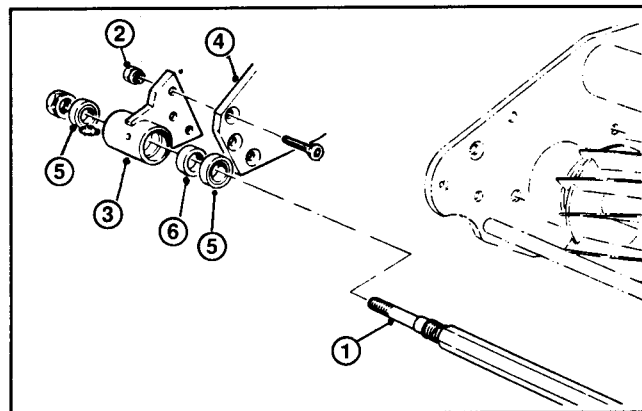
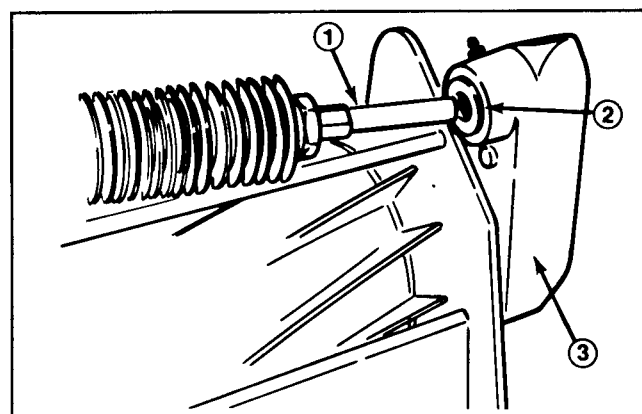

Figure 46a
Figure 46b
4. Remove locknut from right end of groomer reel shaft (Fig. 46a).
5. Remove three (3) screws and nuts securing bearing housing to right side groomer plate (Fig. 46a). Remove right side bearing bracket from groomer reel shaft. Remove groomer reel shaft from bearing support in left side groomer housing (Fig. 46b).